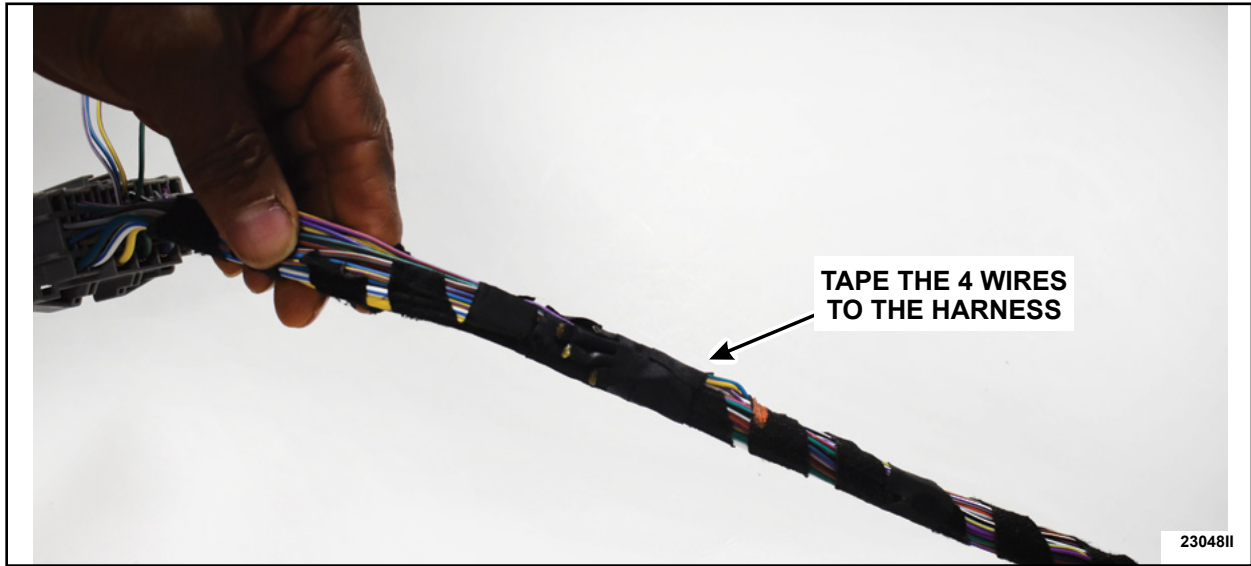

FIGURE 10
10. Using electrical tape, tape the four (4) wires, that the heat shrink tubes were just applied, to the harness as shown in Figure 10.